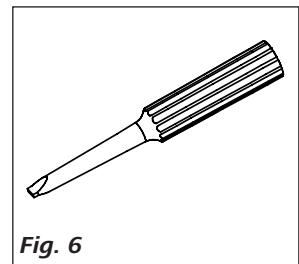

Fig. 6
- Screwdriver (use for safety circuit)              see **Fig. 6**